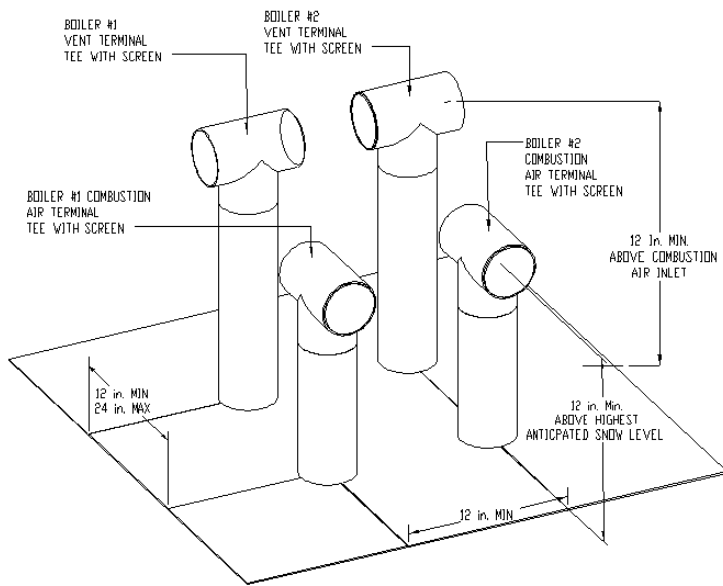

Figure 11: Multiple Boiler Direct Termination
- a. Multiple boiler vent terminations are shown in Figure 11.
- a. Multiple boiler combustion air terminations are shown in Figure 11.